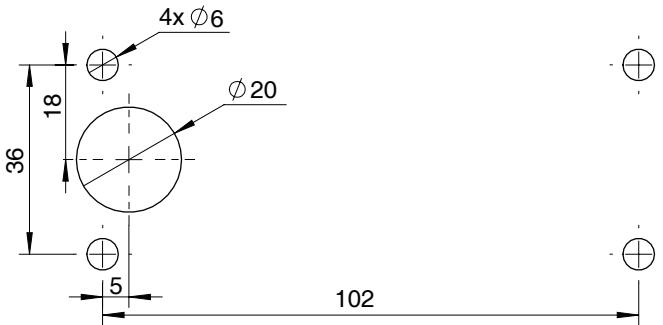

Figure 2-5
① Drill holes on the hull through the fixing guide referring to the figure 2-5.